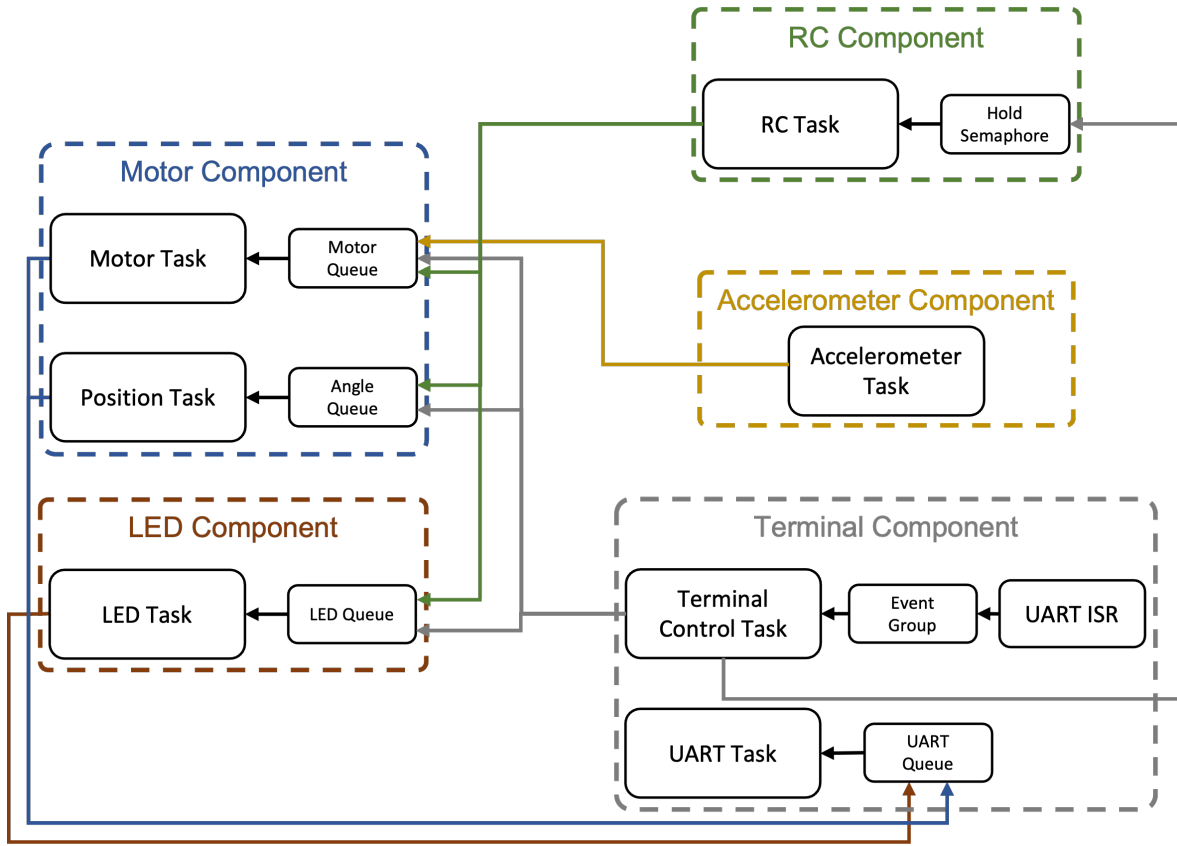

Figure 1: An overview of the project's components. **Accelerometer and Terminal components are bonus deliverables for extra marks.**
- Note that not all the project's components are mandatory, check Figure 1.
In order to fulfill the project requirements in a modular way, the project can be broken down into a number of components, where each component serves a certain purpose. The component should contain at least one task, and it can utilize the synchronization and data sharing techniques to work in harmony with the other components. Figure 1 shows a possible breakdown for the project's components and how they communicate with each other, and the description of the roles of the task are listed in Table 1.